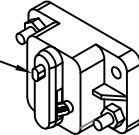

Figure 2: Circuit breaker.
3. **Manually Trip** the Tommy Gate circuit breaker, located near the battery on the red cable, to disconnect the power. (Figure 2)